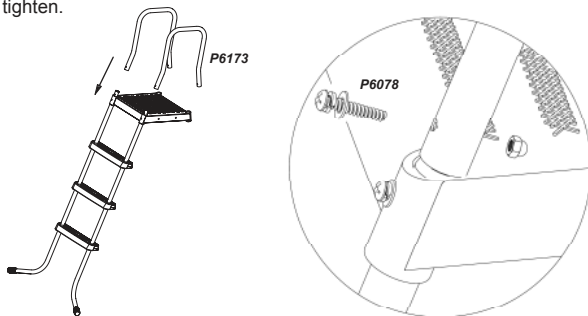

Figure 5
5. Remaining Steps Installation (figure 5):